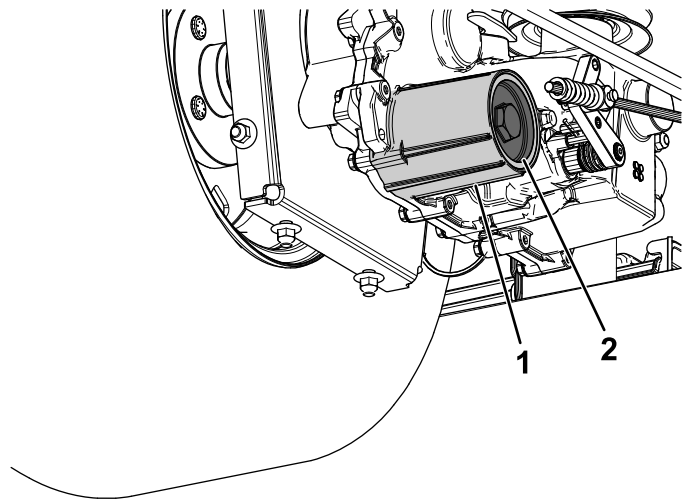

Figure 71
7. Remove the hydraulic-fluid filter cover from the transaxle to drain the fluid (Figure 71).